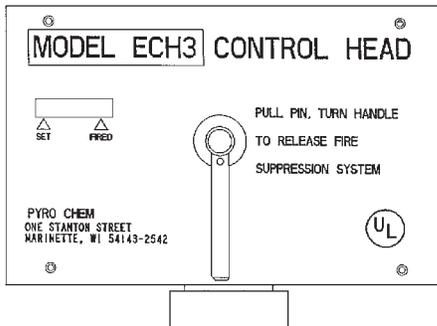

**Figure 2-5. Mechanical Control Head.**
The Model MCH3 mechanical control head is a fully mechanical control head which can be connected to the PCI-15/17/25s/35/70 cylinder valve. This control head will support a fusible link detection system, a remote mechanical pull station (Model RPS-M), and a mechanical or electric gas shut-off valve. A micro switch (Model MS-SPDT, MS-DPDT, MS-3PDT, or MS-4PDT) can be ordered separately and field installed. It is equipped with a local manual control handle that allows for mechanical system actuation. Operation of the local manual control requires removing the pull pin and rotating the handle clockwise. The Model MCH3 control head can actuate a maximum of five (5) cylinders. See **Figure 2-5**.